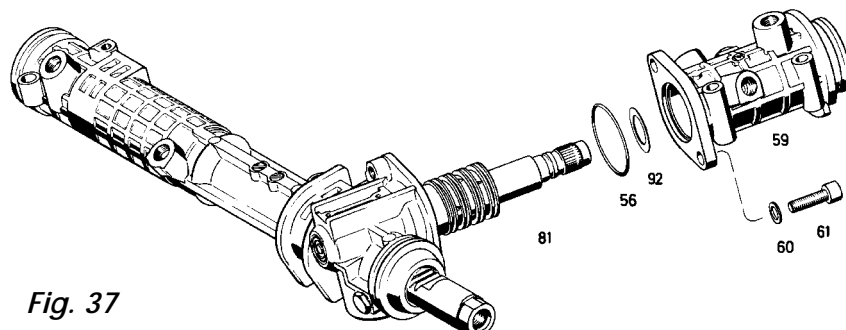

Fig. 37
Mount the O-ring (56) (**Fig. 37**). Put the support shim (92) into place. Put tool [18] on the stub input shaft. Put the valve housing (59) into place.